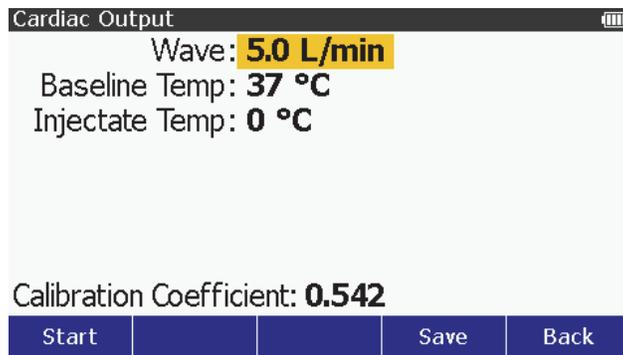

Figure 28. Cardiac Output Screen
2. Push **▲**, **▼**, **⏪**, or **⏩** to highlight **Cardiac Output** and then push **ENTER** to show the cardiac output parameters on the display. See Figure 28.